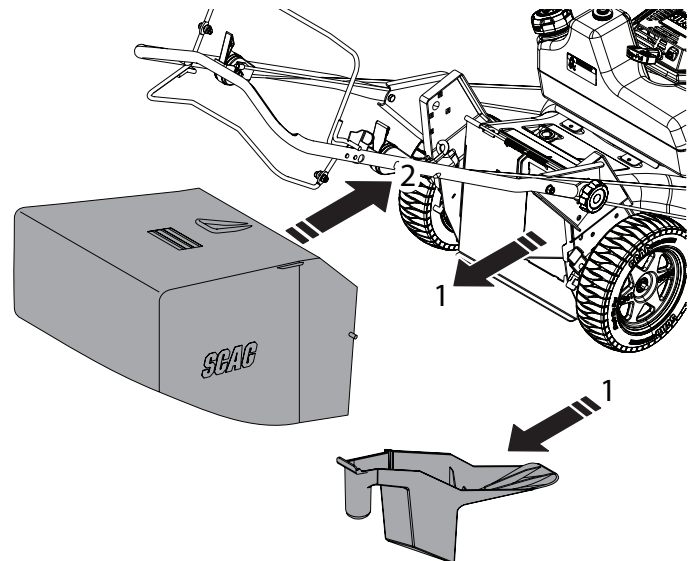

Figure 6-8. Bagging Grass.
1. Lift the rear cover and remove the rear discharge plug from the cutter deck. See Figure 6-8.
2. Reinstall the grass collection bag onto the mower. See Figure 6-8.